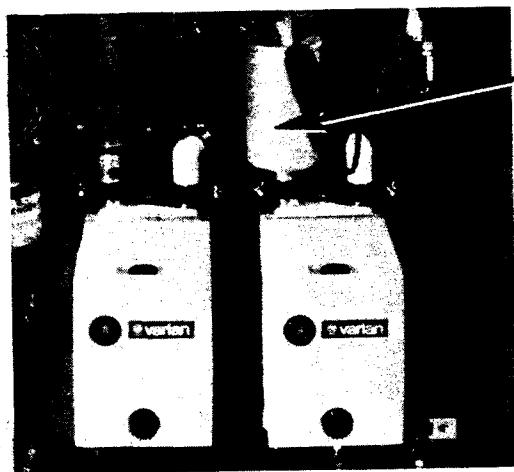

Figure 6-7. Removing Foreline Manifold
5. Remove manifold from machine (see Figure 6-7).